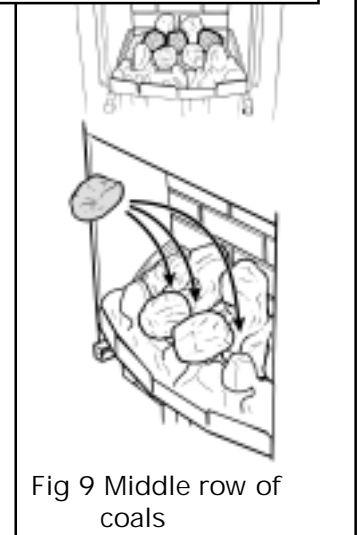

Fig 9 Middle row of coals
5.2 Place the three remaining coals behind and approximately midway between each of the coals in the front row (See figure 9).